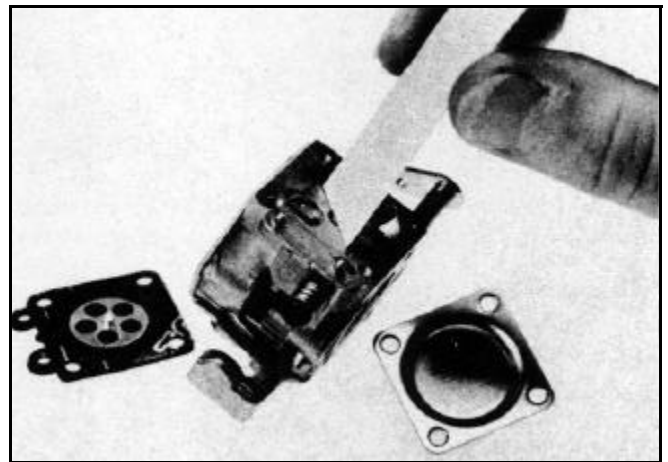

Figure 212
4. Install the metering lever components. The metering lever is properly adjusted when the top surface of the lever is aligned to the carburetor body with a straight edge (Figure 212). The lever can be adjusted by gently bending it until it is flush with the carburetor casting surface. **NOTE:** Perform steps 5 and 6 in order.